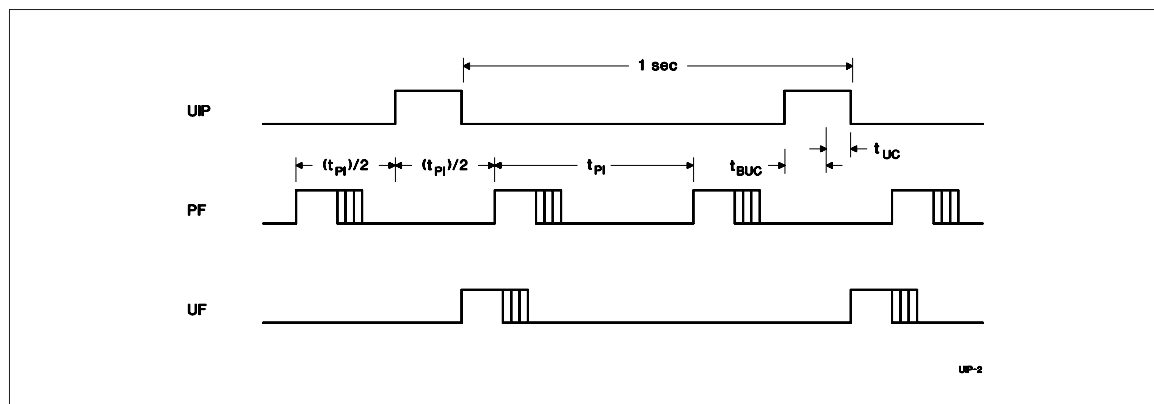

Figure 3. Update-Ended/Periodic Interrupt Relationship
- Enable the update interrupt event to generate interrupt requests at the end of the update cycle. The interrupt handler has a maximum of 999ms to access the clock bytes before the next update cycle begins (see Figure 3).
- Poll the update-in-progress bit (UIP) in register A. If UIP = 0, the polling routine has a minimum of t_{BUC} time to access the clock bytes (see Figure 3).
- Use the periodic interrupt event to generate interrupt requests every t_{PI} time, such that $UIP = 1$ always occurs between the periodic interrupts. The interrupt handler will have a minimum of $t_{PI}/2 + t_{BUC}$ time to access the clock bytes (see Figure 3).